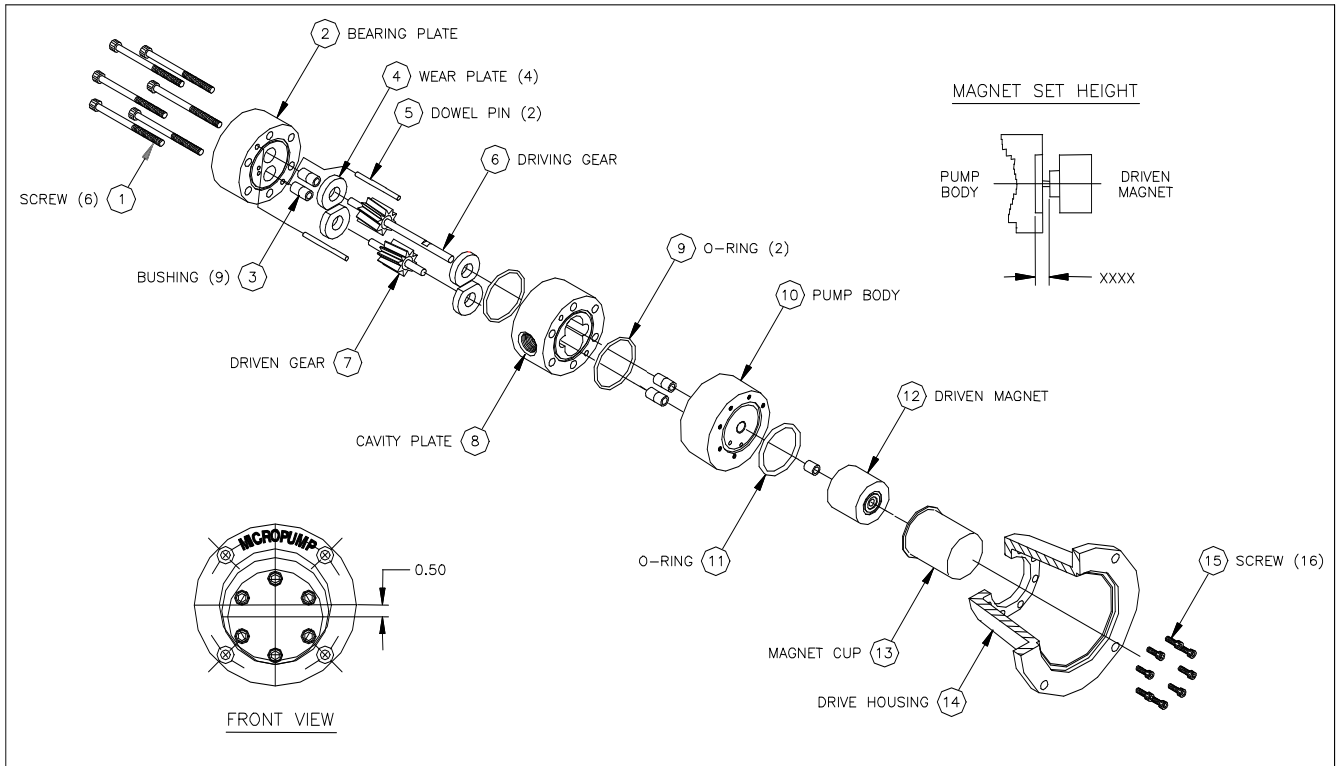

FIGURE 1
1.2 Drive power for the pump is provided by the motor via the magnetic coupling. An exploded view is shown in Figure 1. Fluid is drawn into the pump due to the negative pressure created by the gear rotation in the cavity plate. The fluid is contained by the gear teeth, cavity walls, and gear mesh to create fluid transfer and pressure.
3. Disassembly of Pump (Refer to Figure 1)